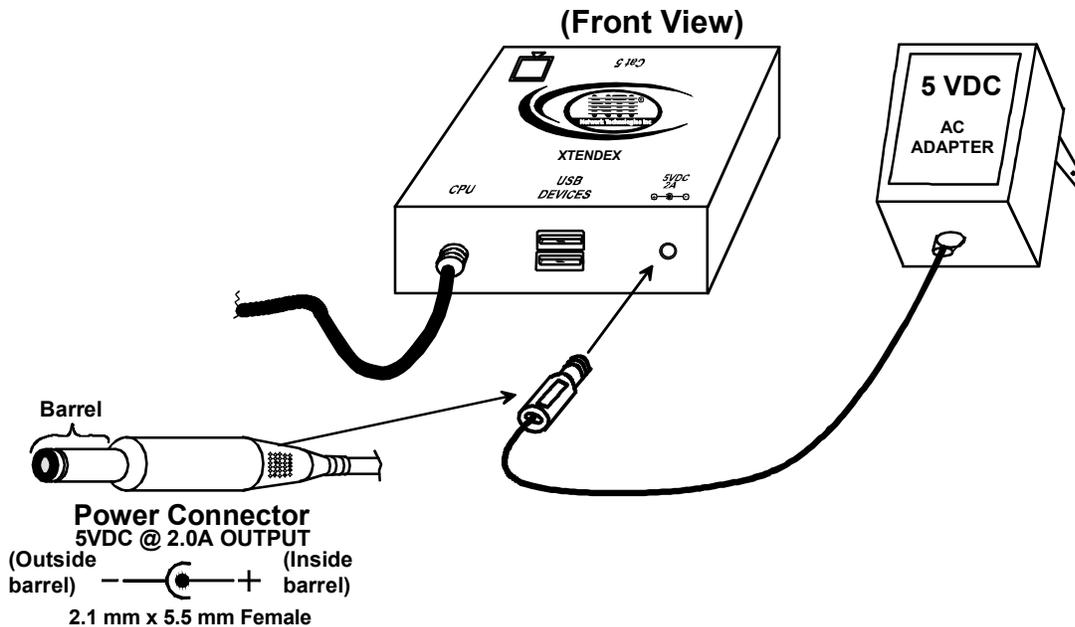

Figure 5- Connect AC adapter to Local Unit
4. Connect the other AC adapter power connector to the 5VDC port on the Local Unit (Fig. 5).